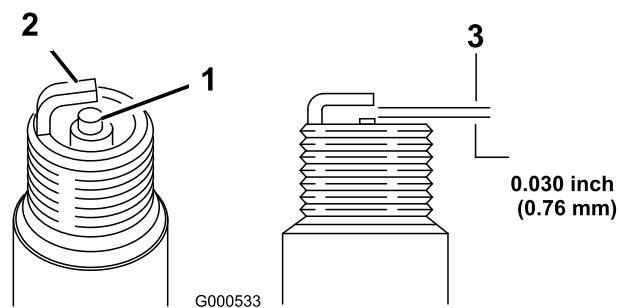

Figure 28
1. Look at the center of the spark plug(s) (Figure 28). If you see light brown or gray on the insulator, the engine is operating properly. A black coating on the insulator usually means the air cleaner is dirty.
2. Check the gap between the center and side electrodes (Figure 28). Bend the side electrode (Figure 28) if the gap is not correct.